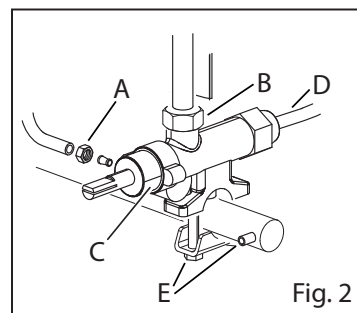

Fig. 2
- Open the cut-off cock upstream the equipment (Fig. 2);
- Reassemble the screw with gas seal washer in the appropriate seat, open the cut-off cock upstream the machine (Fig. 2) and check by turning the burner on, that there are no gas leakages.
- Demount if necessary, the plugs in order to avoid to damage it during the injector replacement (Fig. 2).
In the provided models, the reduced thermal range is obtained with the “sized” by-pass minimum screw (Fig. 2), screwed hard (see reference Gas Table).
- Adjust the minimum by-pass screw (Fig. 2/A)
- Unscrew the nozzles (Fig. 2/B) and screw them in the chosen position
- Remove the power plate (Fig. 2/C) and place it on the corresponding burner
- Unscrew the spacer (Fig. 2/D) and screw it in the chosen flange
- Unscrew the gas inlet (e.g. Fig. 2/E) and outlet (Fig. 2/A and B) connections.
- Unscrew the thermocouple (Fig. 2/D)
- Unscrew the thermocouple from the cut-off cock (Fig. 2/D)